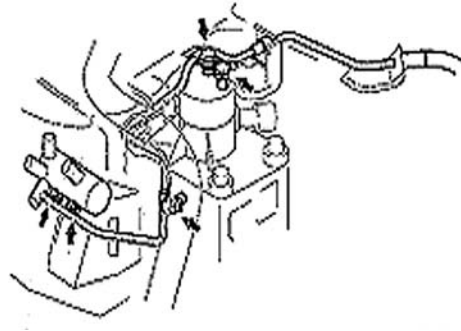

Figure 140
3. Remove clutch cylinder sub-assembly. See (Figure 140)
34. Install clutch sub-pump assembly. See (Figure 140)